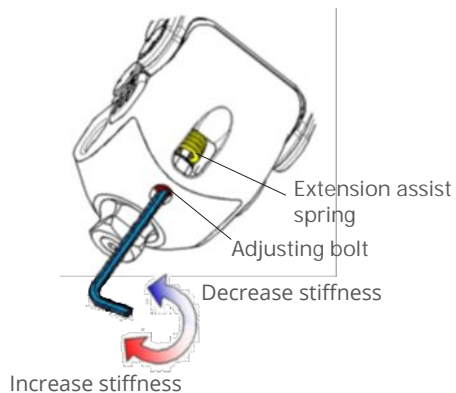

Fig. 10 - How to Adjust the Extension Assist Spring
- Adjust the adjusting bolt shown in Fig. 10 with a 2.5 mm hexagonal wrench.